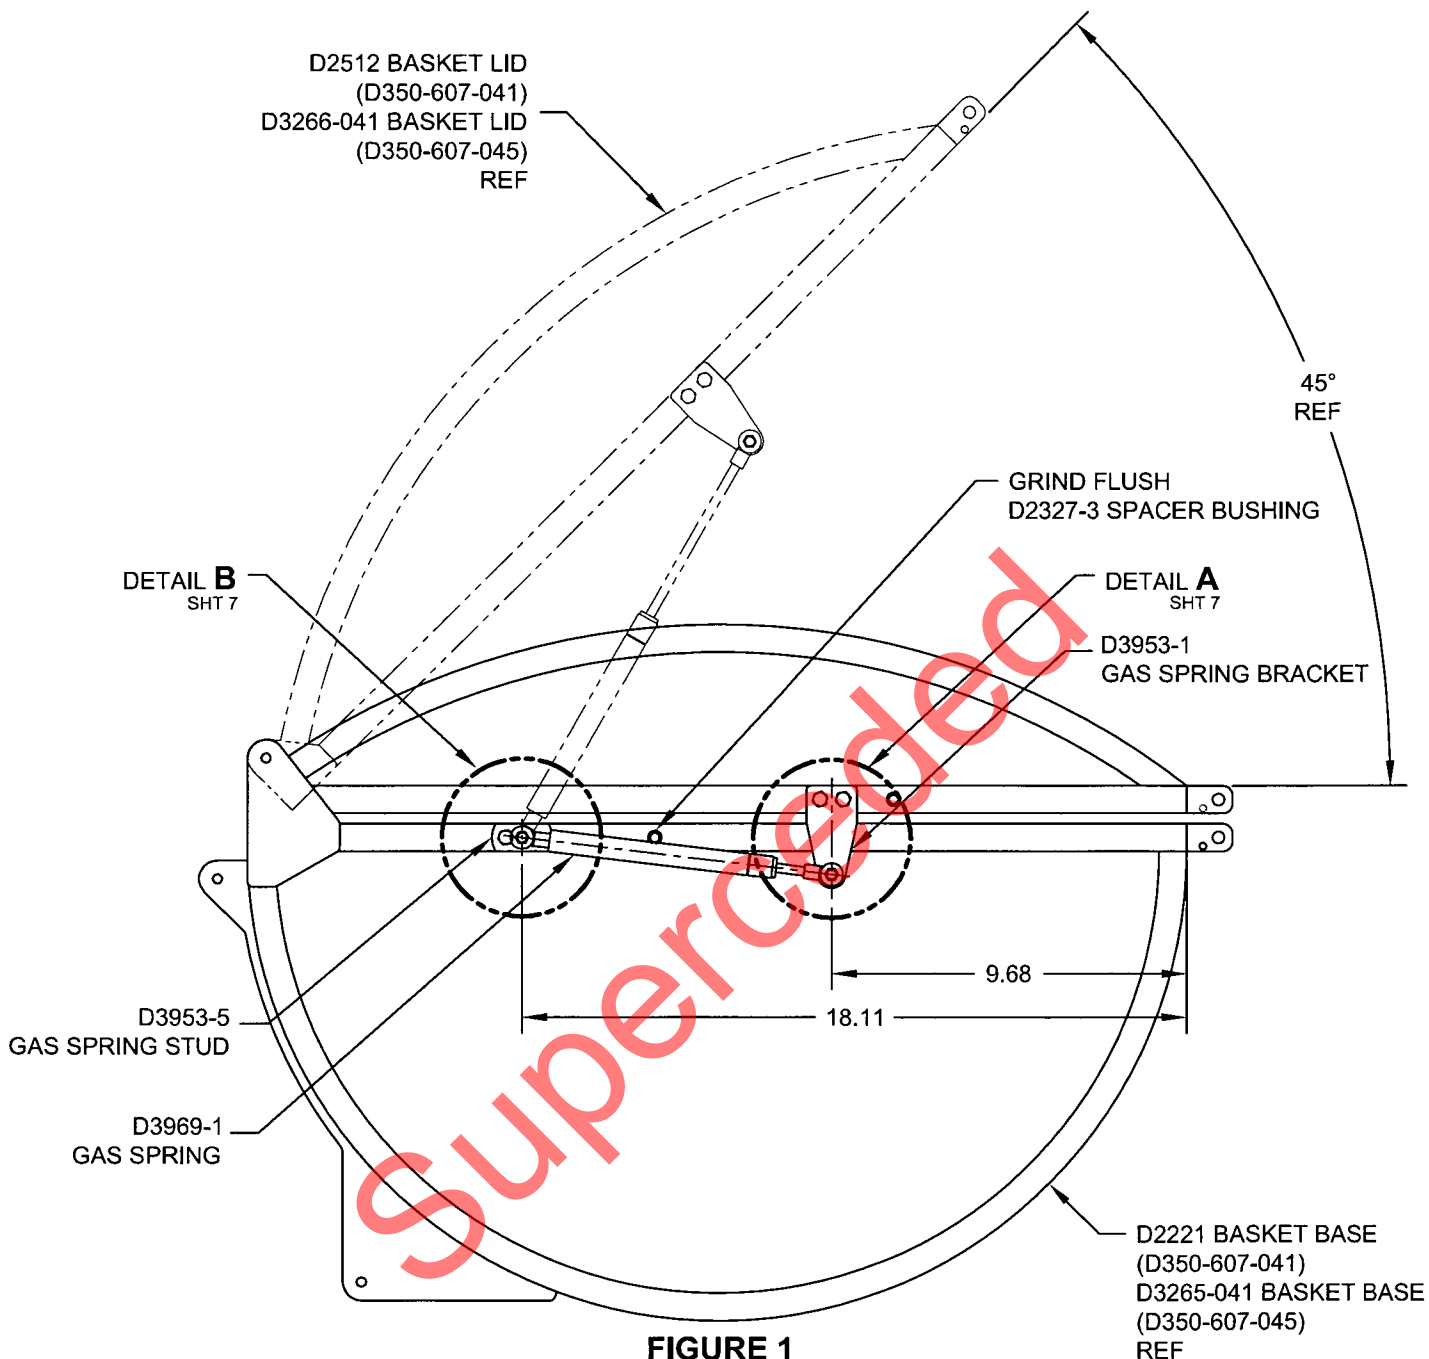

FIGURE 1
- 2) GRIND FLUSH THE D2327-3 SPACER BUSHING ON BOTH ENDS OF THE BASKET AS SHOWN IN FIGURE 1 (IT IS PERMISSIBLE TO GRIND ALL 4 SPACERS FLUSH). TOUCH UP PAINT PER ICA-D350-607 REV. 0 SECTION 5.1 ITEM 4.
- 3) LOCATE THE D3953-1 GAS SPRING BRACKET AS SHOWN IN FIGURE 1. TRIM STEEL MESH LOCALLY AS REQUIRED. TOUCH UP PAINT PER ICA-D350-607 REV. 0 SECTION 5.1 ITEM 4. TRANSFER MARK AND DRILL 2X Ø0.194 HOLES THRU THE BASKET LID SQUARE TUBE STRUCTURE AS SHOWN IN DETAIL A. INSTALL THE D3953-1 GAS SPRING BRACKET & D3953-13 GAS SPRING SPACER USING 2X AN3C16A BOLT, 2X NAS1149C0332 WASHER & 2X MS21043-3 NUT AS SHOWN IN VIEW E-E.
- 4) LOCATE THE D3953-5 GAS SPRING STUD AS SHOWN IN FIGURE 1. TRIM STEEL MESH LOCALLY AS REQUIRED. TOUCH UP PAINT PER ICA-D350-607 REV. 0 SECTION 5.1 ITEM 4. TRANSFER MARK AND DRILL 2X Ø0.194 HOLES THRU THE BASKET BASE SQUARE TUBE STRUCTURE AS SHOWN IN DETAIL B. FASTEN D3953-5 IAW VIEW F-F USING 2X AN3C11A BOLT, 2X NAS1149C0332 WASHER & 2X MS21043-3 NUT.
- 2) GRIND FLUSH THE D2327-3 SPACER BUSHING ON THE END OF THE BASKET WHERE THE GAS SPRING KIT IS BE INSTALLED AS SHOWN IN FIGURE 1 (IT IS PERMISSIBLE TO GRIND ALL 4 SPACERS FLUSH). TOUCH UP PAINT PER ICA-D350-607 REV. 0 SECTION 5.1 ITEM 4.